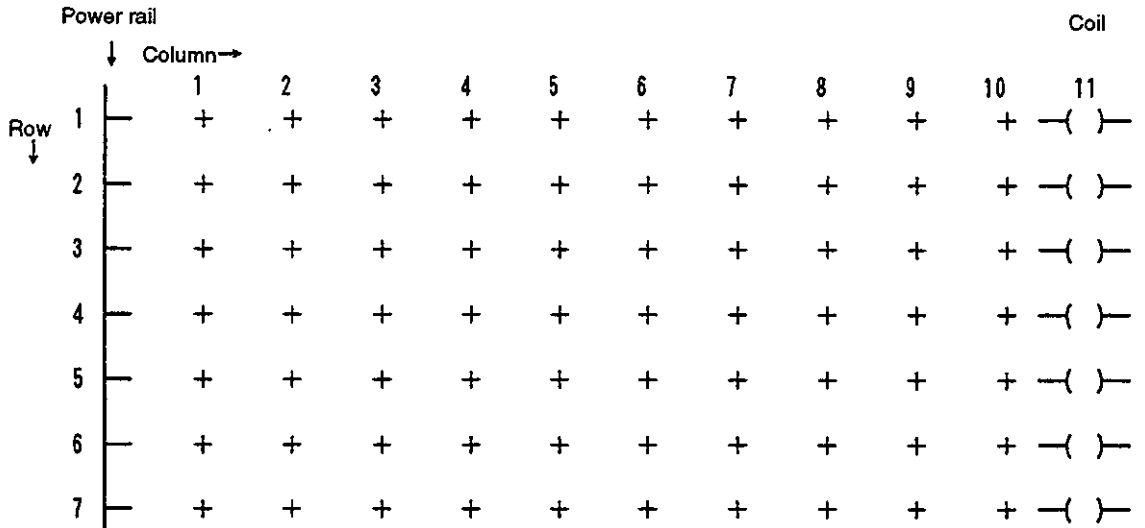

Figure 2.3 Network Configuration
- 2) The horizontal lines in a network are called "rows," and the vertical lines are called "columns." As shown in *Figure 2.3*, a single network consists of seven rows and eleven columns. It can contain up to eleven elements per row and seven elements per column, for a maximum total of 77 elements.